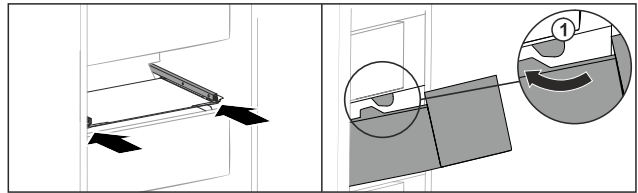

Fig. 168
- ▶ Guide drawer around the stoppers Fig. 168 (1).